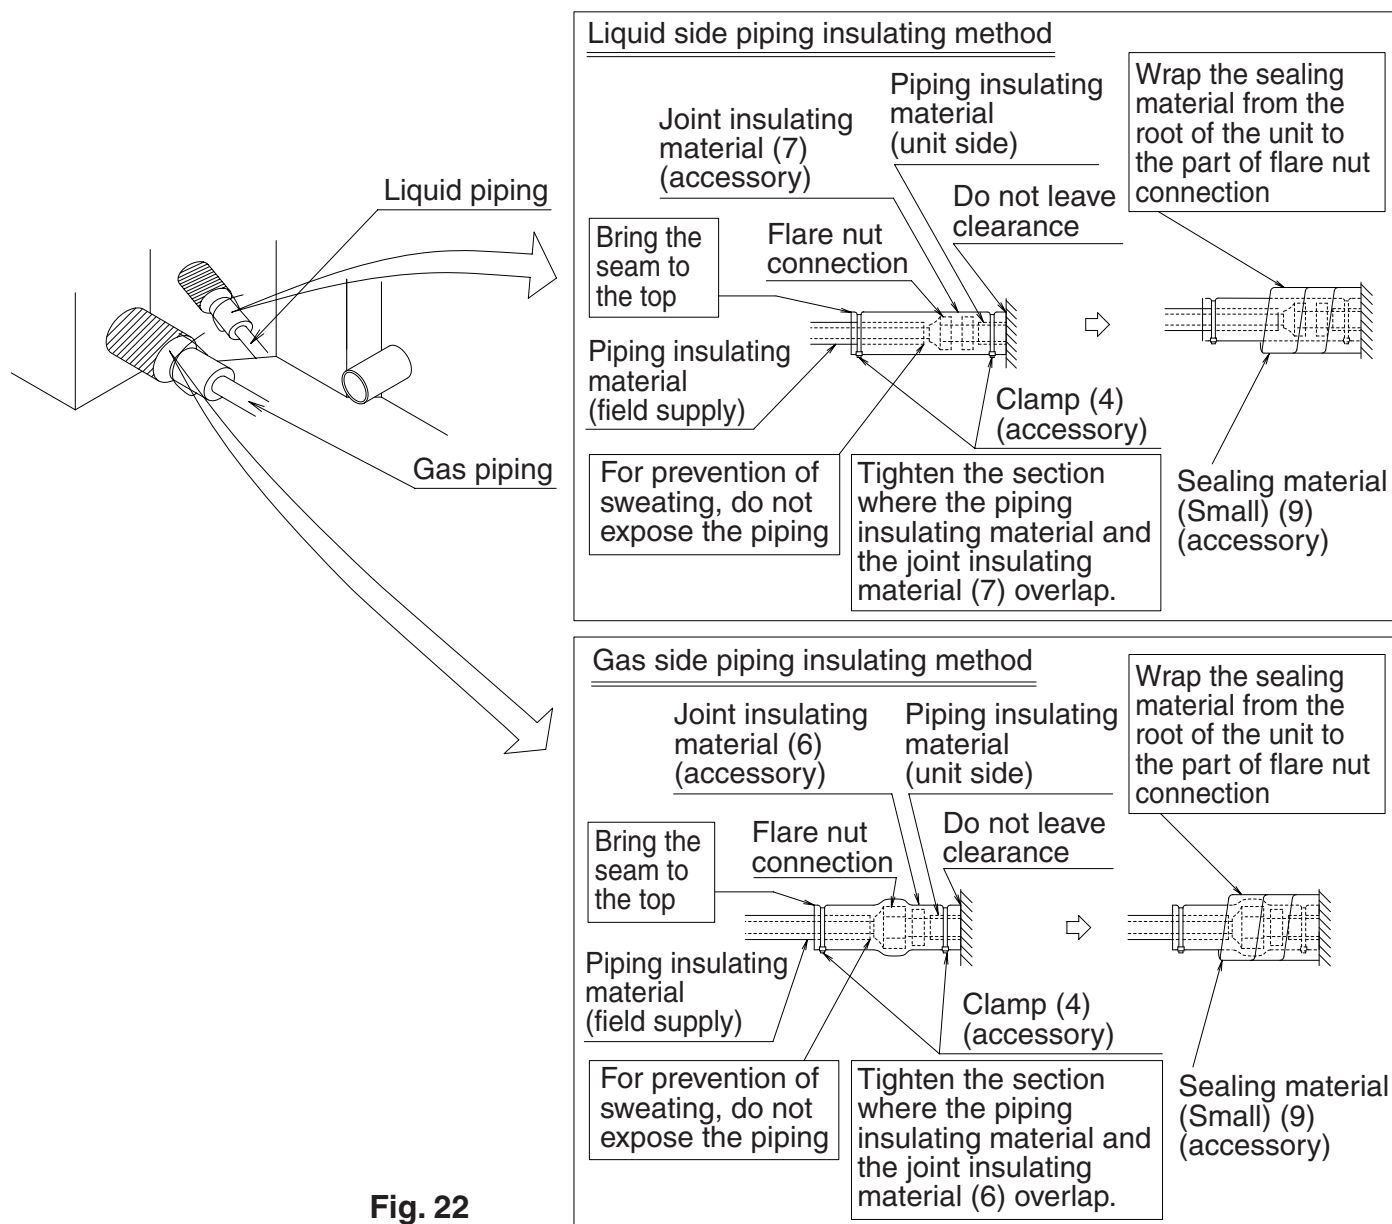

Fig. 22
- After leak test, referring to **Fig. 22**, insulate both the gas and liquid piping connection with the attached joint insulating material (6) and (7) to prevent the piping from getting exposed. Then, tighten the both ends of insulating material with the clamp (4).